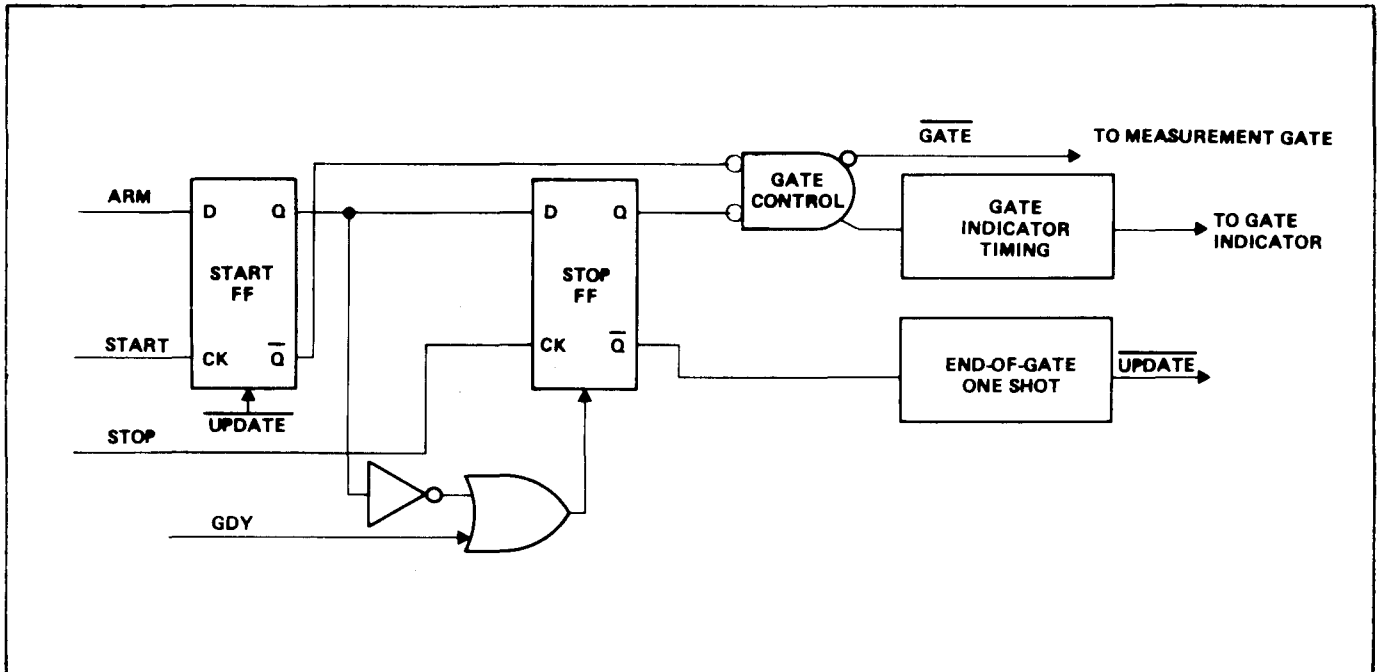

Figure 1.25 - Measurement Gate Control Logic
1.4.12.3 The signal from the  $\overline{Q}$ -output of the start flip-flop is used to open the gate. See figure 1.25. The stop signal is taken from the Q-output to close the gate.